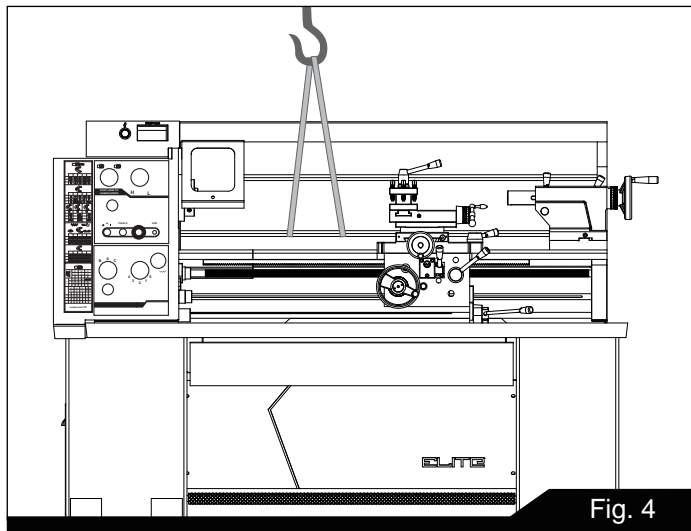

Fig. 4
7. With properly rated lifting equipment, slowly raise lathe off shipping pallet. (See Figure 4). Do not lift lathe by the spindle.